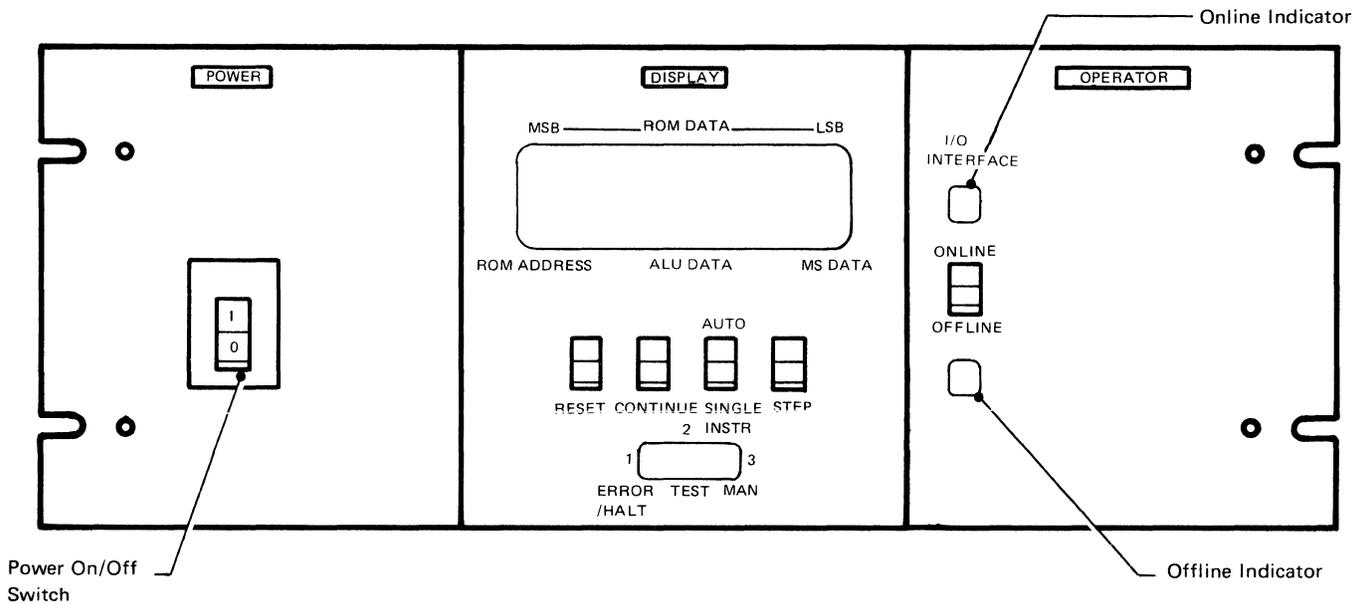

Figure 1-2. 3258 Panel
1. Switch power on by pressing **|** on the power on/off switch (see Figure 1-2).